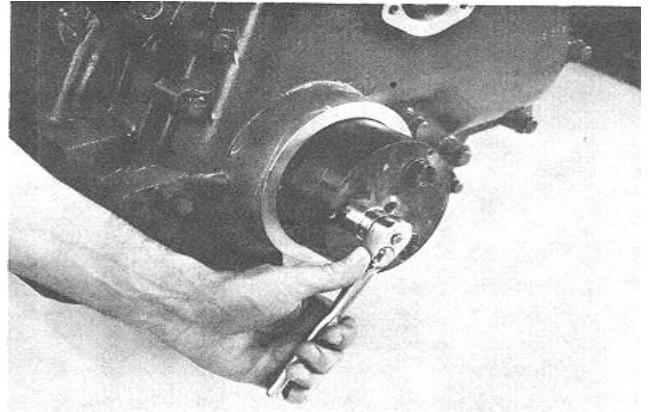

Fig. 14-39 (N114266). Install The Oil Seal.
6. Install a new oil seal into the gear cover. Use the Part No. ST-1259 Mandrel and the Part No. 3375151 Pilot to install the seal, Fig. 14-39. Use the Part No. ST-1172 Mandrel to install the seal when the end of the crankshaft is tapered.